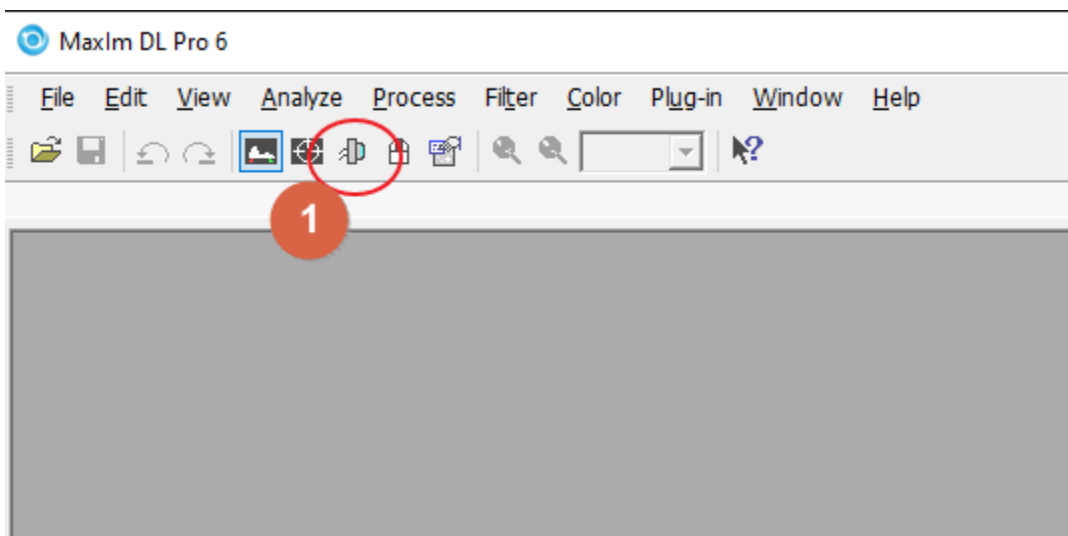

Fig 8.2 Toggle Camera Control Box
8.2. Toggle camera control by the icon in figure 8.2